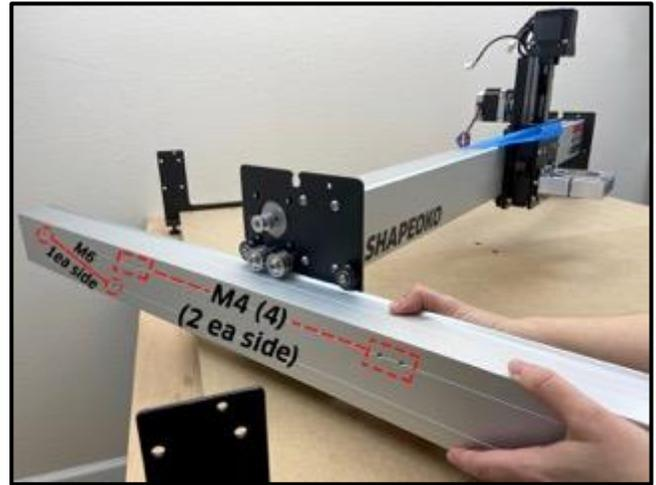

Figure 4-7
1. Slide the integrated v-rails of the Y1-extrusion rail between the four (4) V-wheels of the Y1-carriage. Center the rail with the carriage plate. See *Figure 4-7*.